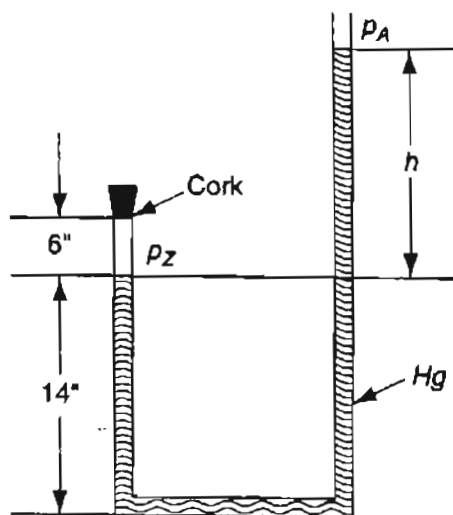

Figure P13.10
- **13.10** The U-tube manometer depicted in Figure P13.10 has a left leg 20 inches high and a right leg 40 inches high. The manometer initially contains mercury to a depth of 12 inches in each leg. Then the left leg is closed with a cork, and mercury is poured in the right leg until the mercury in the left (closed) leg reaches a height of 14 inches. How deep is the mercury in the right leg from the bottom of the manometer?